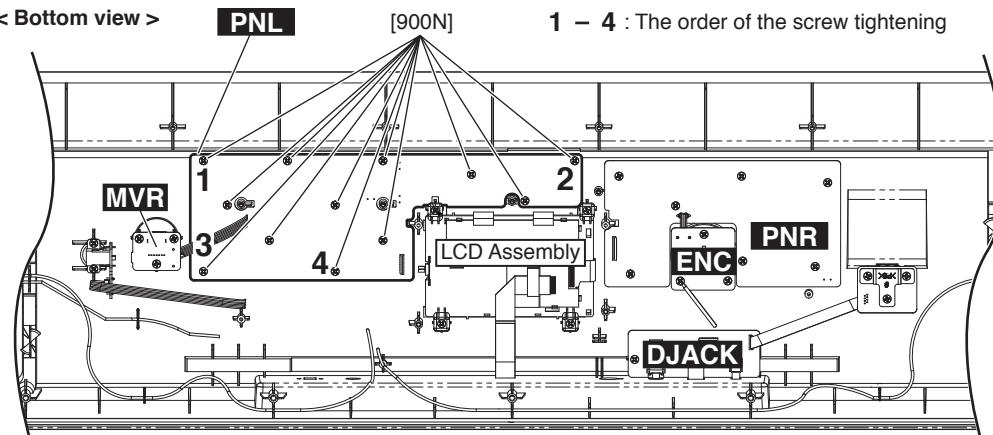

Fig.5
- 4-4 Remove the twelve (12) screws marked [900N]. The PNL circuit board can then be removed. (Fig.5)
- * When the PNL circuit board is assembled, tighten the screws marked [900N] in the order of 1, 2, 3, 4 and the remaining screws. (Fig.5)